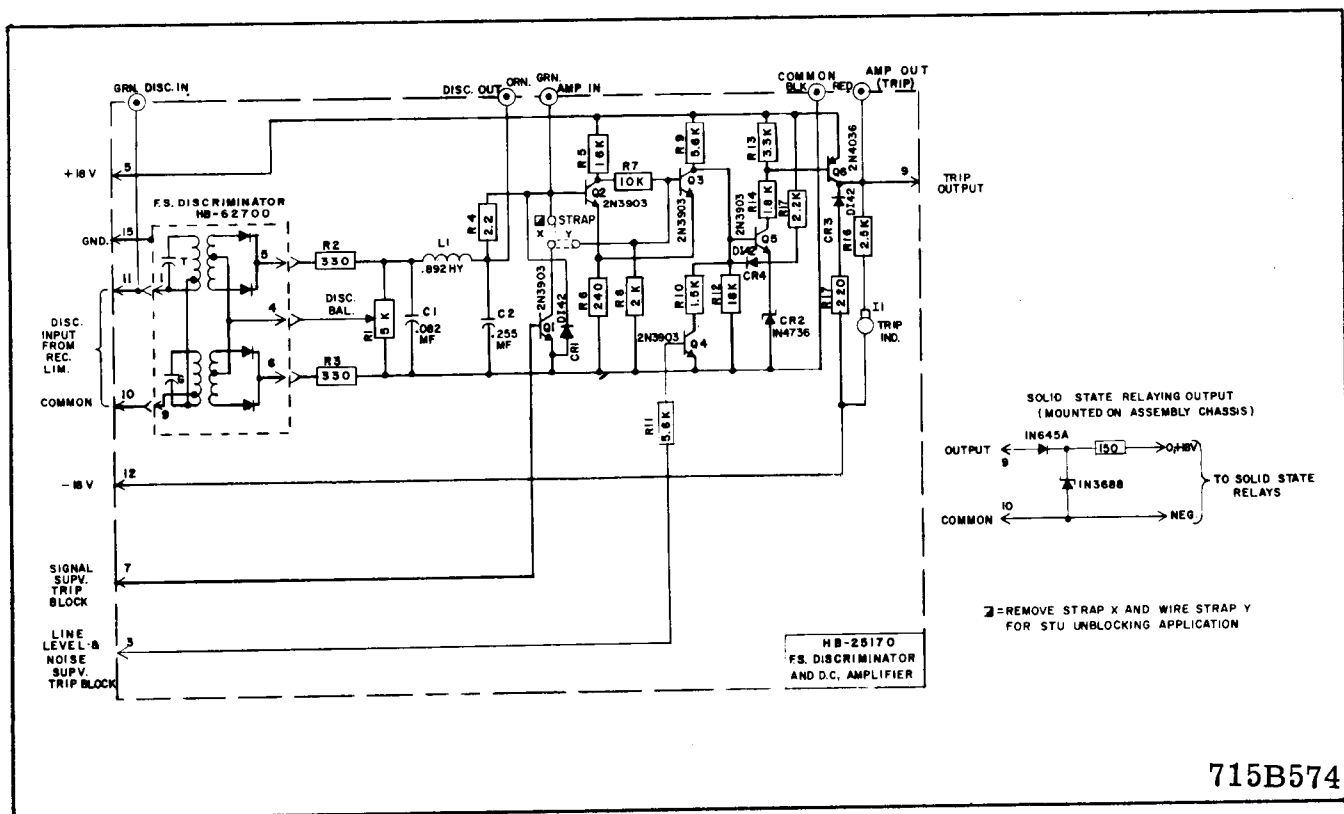

Fig. 14. F.S. Discriminator and D-C Amplifier for Solid-State Relaying HB-25170.
2. Receiver Limiter and Signal Supervisory Module HB25160-1 (Fig. 14)